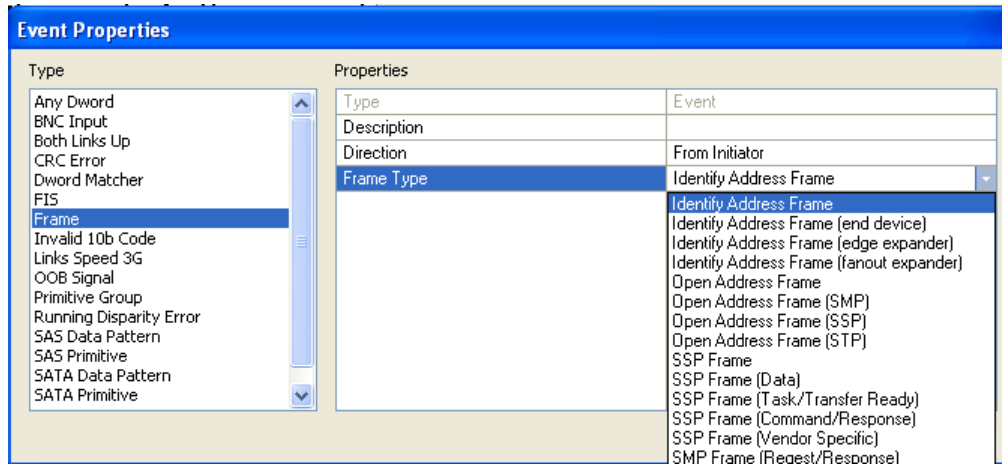

Figure 5.38 Example 7: Event Properties Dialog Box
- Step 5** The Event Properties dialog box appears (Figure 5.38). In the Event Properties dialog box, select **Identify Address Frame** as the event.